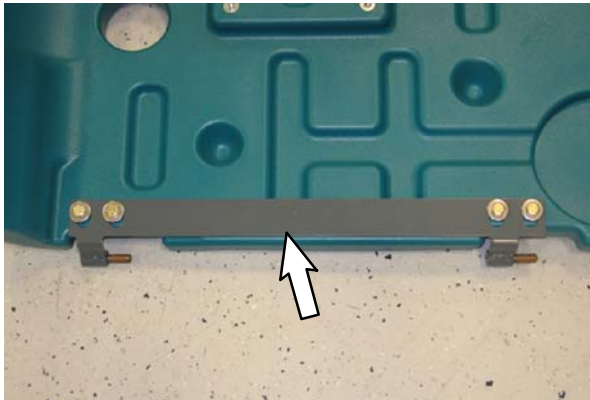

FIG. 67
82. Use four hex screws (51) and four flat washers (82) to install the side shroud hinge (43) onto the side cover (77). (Fig. 67)